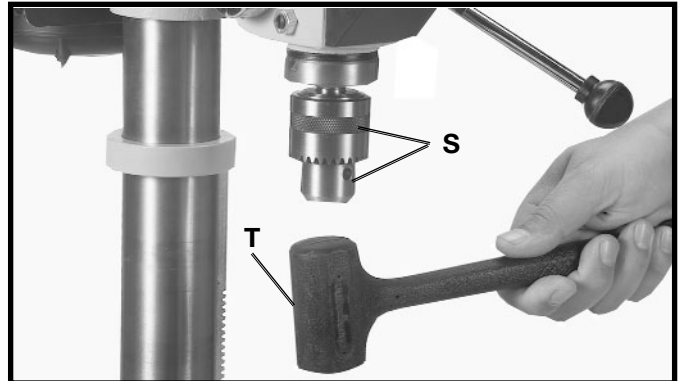

Fig. 16
13. Carefully drive chuck (S) Fig. 16, onto the spindle with a block of wood and hammer, or a rubber mallet (T) as shown. This will seat the chuck properly on the spindle. **IMPORTANT:** To avoid damage to the chuck, **NEVER** drive the chuck onto the spindle with a metal hammer.